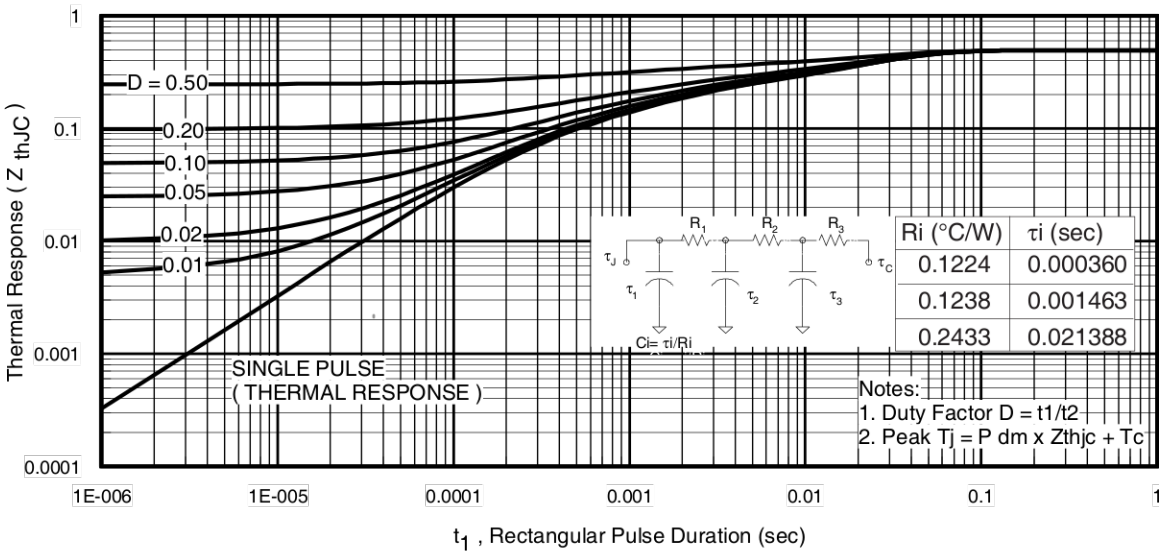
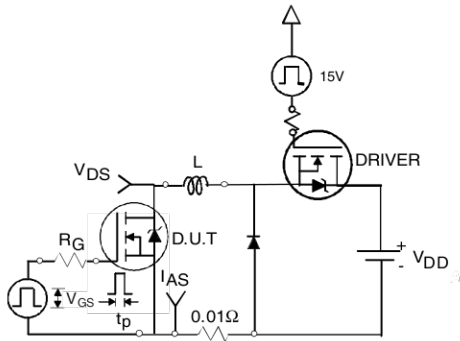

Fig 11. Maximum Effective Transient Thermal Impedance, Junction-to-Case
Fig 12a. Unclamped Inductive Test Circuit
- ① Repetitive rating; pulse width limited by max. junction temperature. (See fig. 11).
- ② Limited by T_{Jmax}, starting T_J = 25°C, L = 0.13mH, R_G = 25Ω, I_{AS} = 90A, V_{GS} = 10V. Part not recommended for use above this value.
- ③ I_{SD} ≤ 90A, di/dt ≤ 340A/μs, V_{DD} ≤ V_{(BR)DSS}, T_J ≤ 175°C.
- ④ Pulse width ≤ 1.0ms; duty cycle ≤ 2%.
- ⑤ C_{oss eff.} is a fixed capacitance that gives the same charging time as C_{oss} while V_{DS} is rising from 0 to 80% V_{DSS}.
- ⑥ Limited by T_{Jmax}, see Fig.12a, 12b, 15, 16 for typical repetitive avalanche performance.
- ⑦ This value determined from sample failure population. 100% tested to this value in production.
- ⑧ R_θ is measured at T_J of approximately 90°C.
3. Equation below based on circuit and waveforms shown in Figures 12a, 12b.
$Z_{thJC}(D, t_{av})$ = Transient thermal resistance, see figure 11)